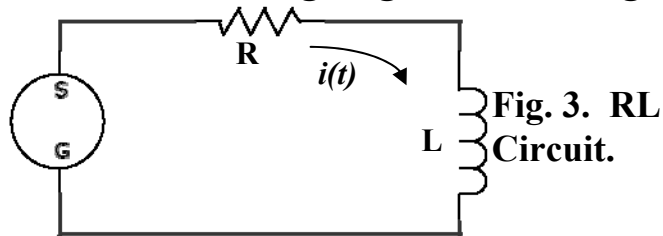

Fig. 3. RL Circuit.
3.3.1. In Fig. 3, the sinusoidal signal generator voltage is $v(t) = V \cos \omega t$.
- 5.2.1. Using a 10 mH inductor and a 16 Ω resistor, make a circuit as shown in Fig. 3, above. Measure L and R_L on the LC meter.